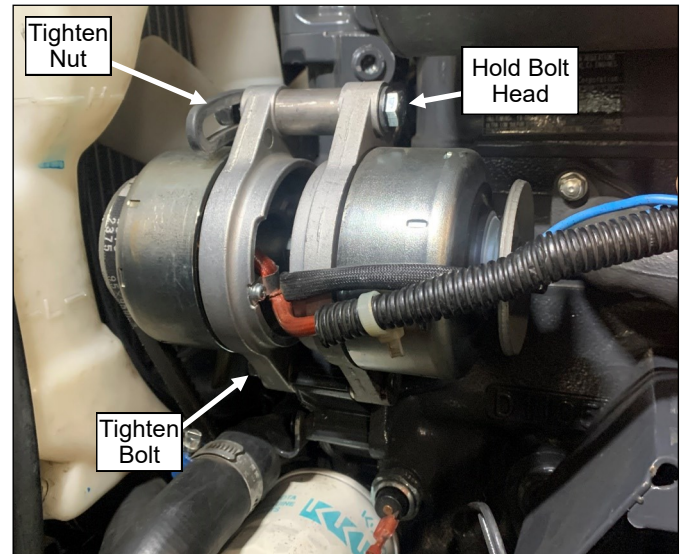

Fig. 13 (Tension Belt, Tighten Hardware)
5. Rotate the OEM dynamo to tighten the belt and re-tighten the upper nut on the OEM dynamo. Note: Hold bolt head with a wrench while tightening nut. See fig. 13.
6. Tighten the lower pivot bolt on the OEM dynamo. See fig. 13.